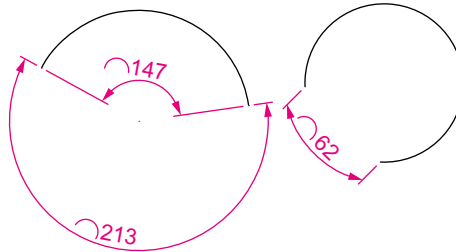

Fig. 6.15 Examples – Arc Length tool
## The Arc Length tool (Fig. 6.15)
1. Construct two arcs of different sizes as in Fig. 6.15.
Examples on two arcs are shown in Fig. 6.15.